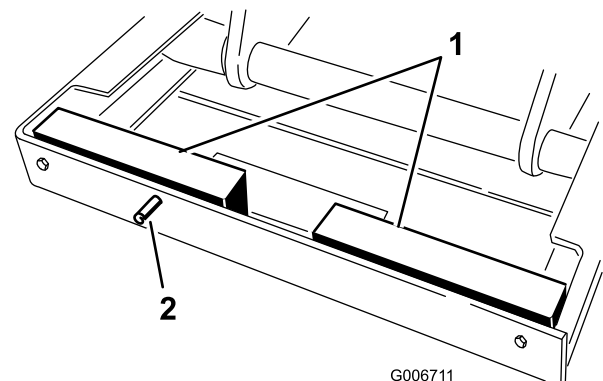

Figure 21
6. Remove retaining pins securing safety blocks to side of lift frame (Figure 21).